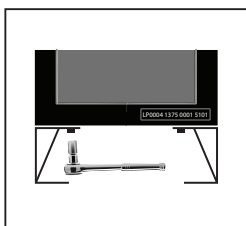

Figure 2.2
2. Remove the 2 bolts on one side of the safe with a 17 mm socket wrench (Figure 2.2)